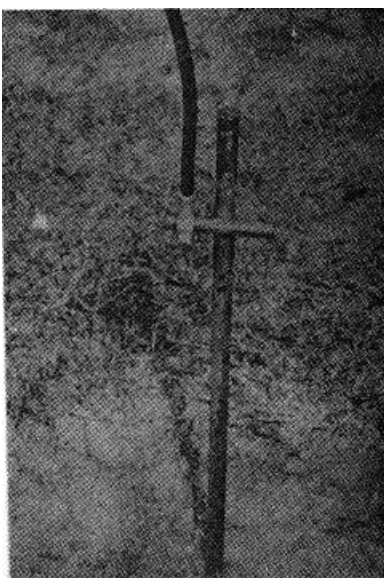

Figure 22. Installation of ground stake.
- (1) Install ground stake, located in compartment below rear doors, by fastening cable to bolt provided with wing nut, on left rear skid (fig. 22).
- (2) Position chocks.